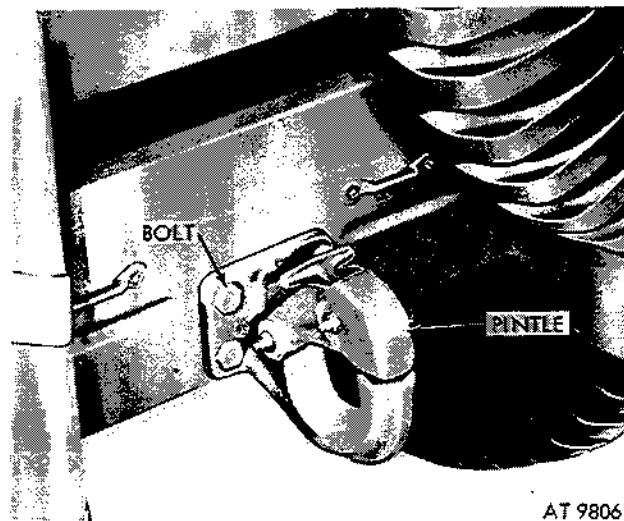

Figure 2-399. Remove towing pintle. (M151, M151A1, M151A1C, and M718 vehicles.)
a. Removal. Remove four hexagon head cap-screws, nuts, and washers from pintle assembly (fig. 2-399) and remove towing pintle from rear of vehicle.
b. Installation. Refer to figure 2-399 for M151, M151A1, M151A1C, and M718 Vehicles, to figure 2-400 for installation on M151A2, M825, and M718A1 vehicles. Torque bolts ($\frac{1}{2}$ -20) securing towing pintle assembly to 65-100 lb-ft.